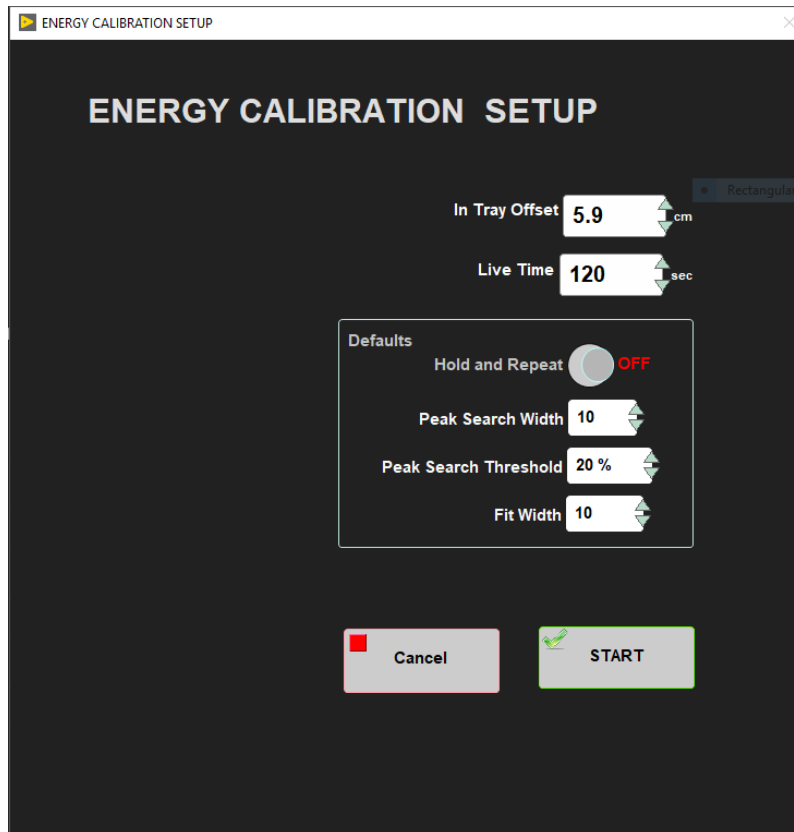

Figure 27. Energy Calibration Setup using collimated sources
- On the main IMS (left-hand) panel, go to **Instruments > NGR: Energy Calib**, the **Energy Calibration Setup** window will be open (Figure 27), check the values and click **START** to allow the calibration to commence. The calibration process takes approximately 20 minutes to complete.
3. On the main IMS (left-hand) panel, go to **Instruments > NGR: Energy Calib**, the **Energy Calibration Setup** window will be open (Figure 27), check the values and click **START** to allow the calibration to commence. The calibration process takes approximately 20 minutes to complete.